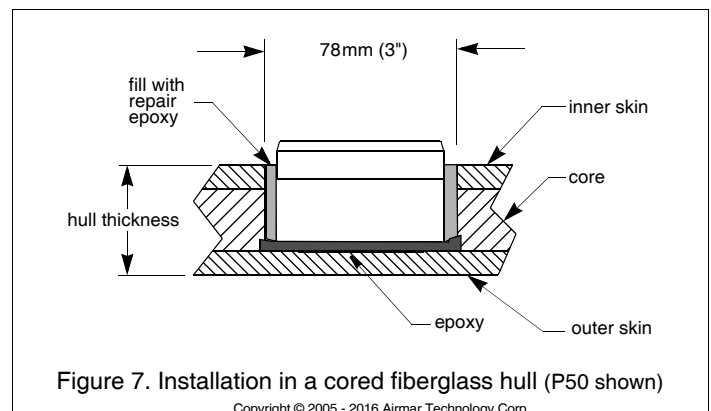

Figure 7. Installation in a cored fiberglass hull (P50 shown)
1. Using a 78mm or 3" hole saw, cut through the *inner skin* and the core at the selected location (Figure 7). The core material can be very soft. Apply only light pressure to the hole saw after cutting through the inner skin to avoid accidentally cutting the outer skin.